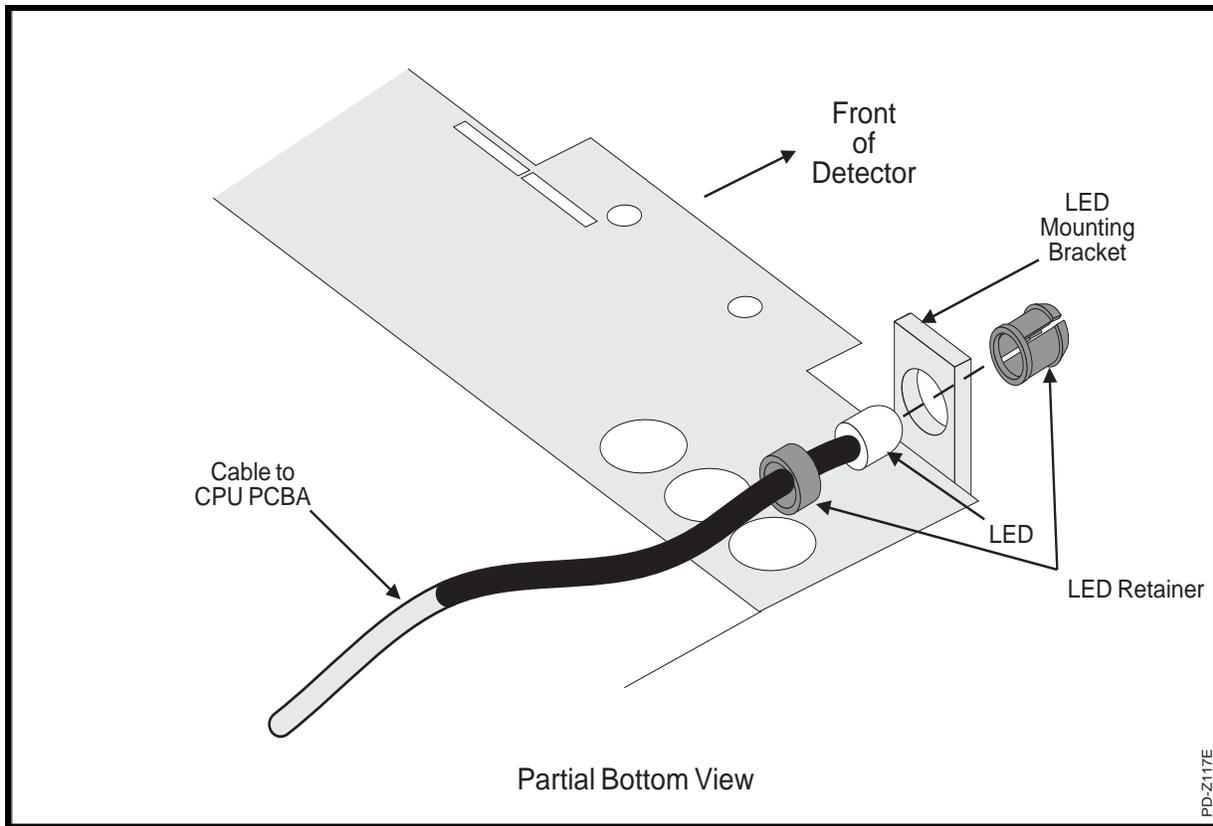

Figure 8.8 LED and cable removal
5. Pull the plastic collar off the retainer (Figure 8.8) and slide it down the cable a short distance.